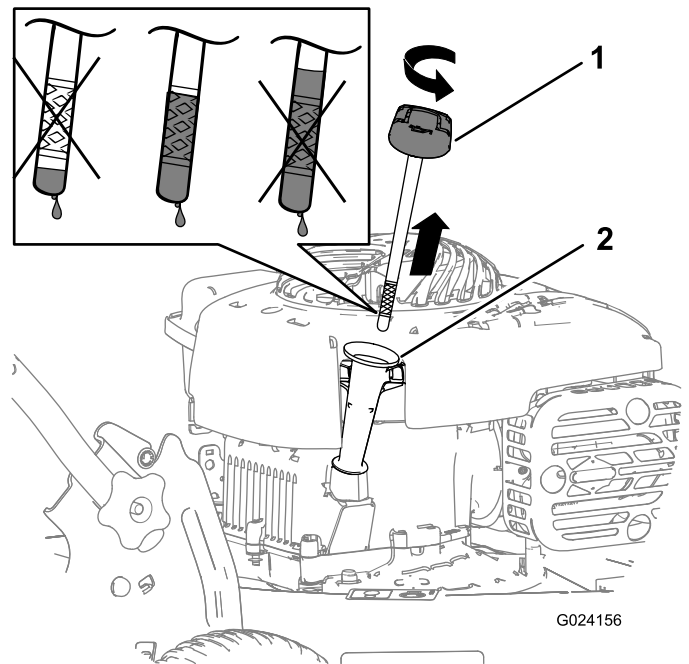

Figure 17
8. Remove the dipstick and read the oil level on the dipstick (Figure 17).